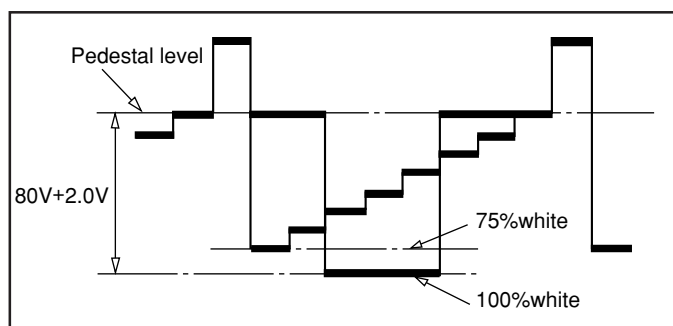

Fig. 3-2
2. Using the volume keys on the jig remote controller, adjust the voltage between pedestal level and 100% white to $80V \pm 2.0V$ as shown in the Fig. 3-2